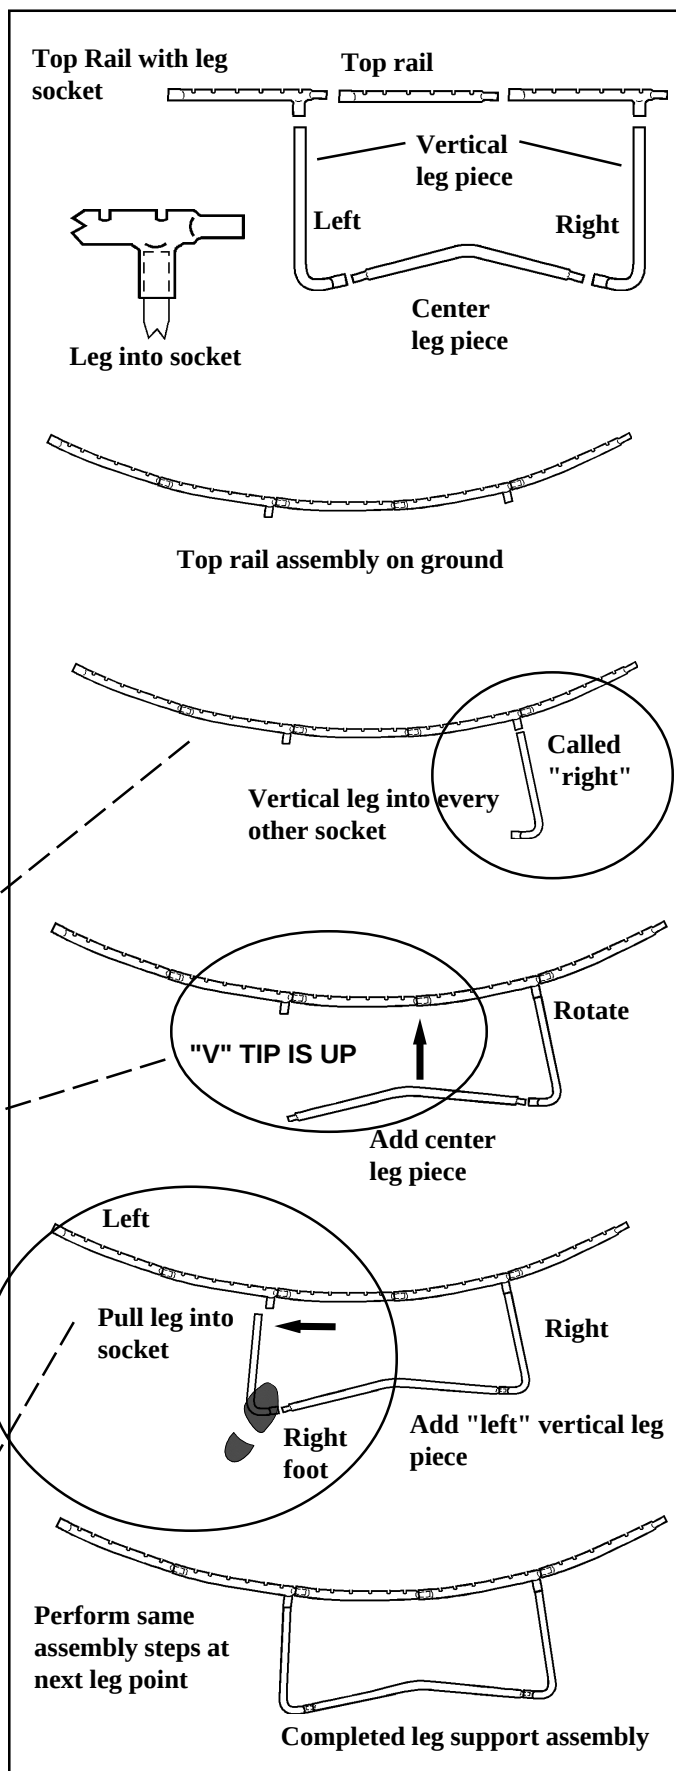

FIGURE 3
Before completing Step's 3 - 4, take a moment to review Figure 3. A series of drawings portrays the assembly sequence and flows from the top to the bottom of the figure. Two people are required for the leg support assembly.
The top rail assembly has eight (8) leg sockets. These sockets are now on the ground. Place a long vertical leg piece into every **OTHER** of the first 6 sockets. One end of the leg slides into the socket. This will raise the top rail assembly and it is now supported at **3 points** (See Fig. 3). One person should hold up the rail at the vacant socket where no leg has been installed. This is where a short vertical leg piece will be placed when the wheels are installed.